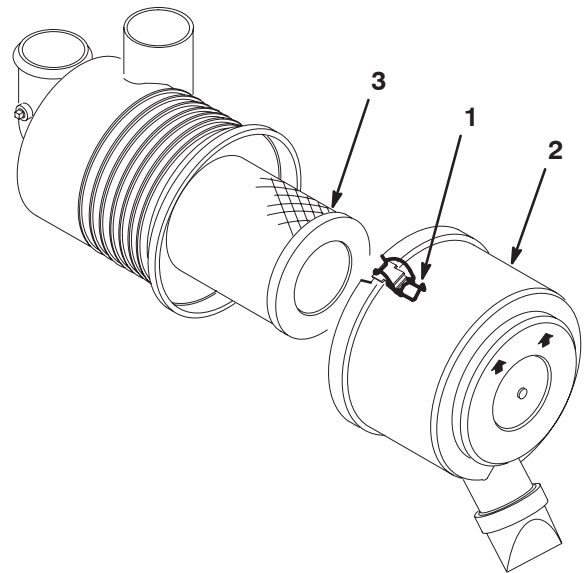

Figure 45
1. Release the latches securing the air cleaner cover to the air cleaner body (Fig. 45).